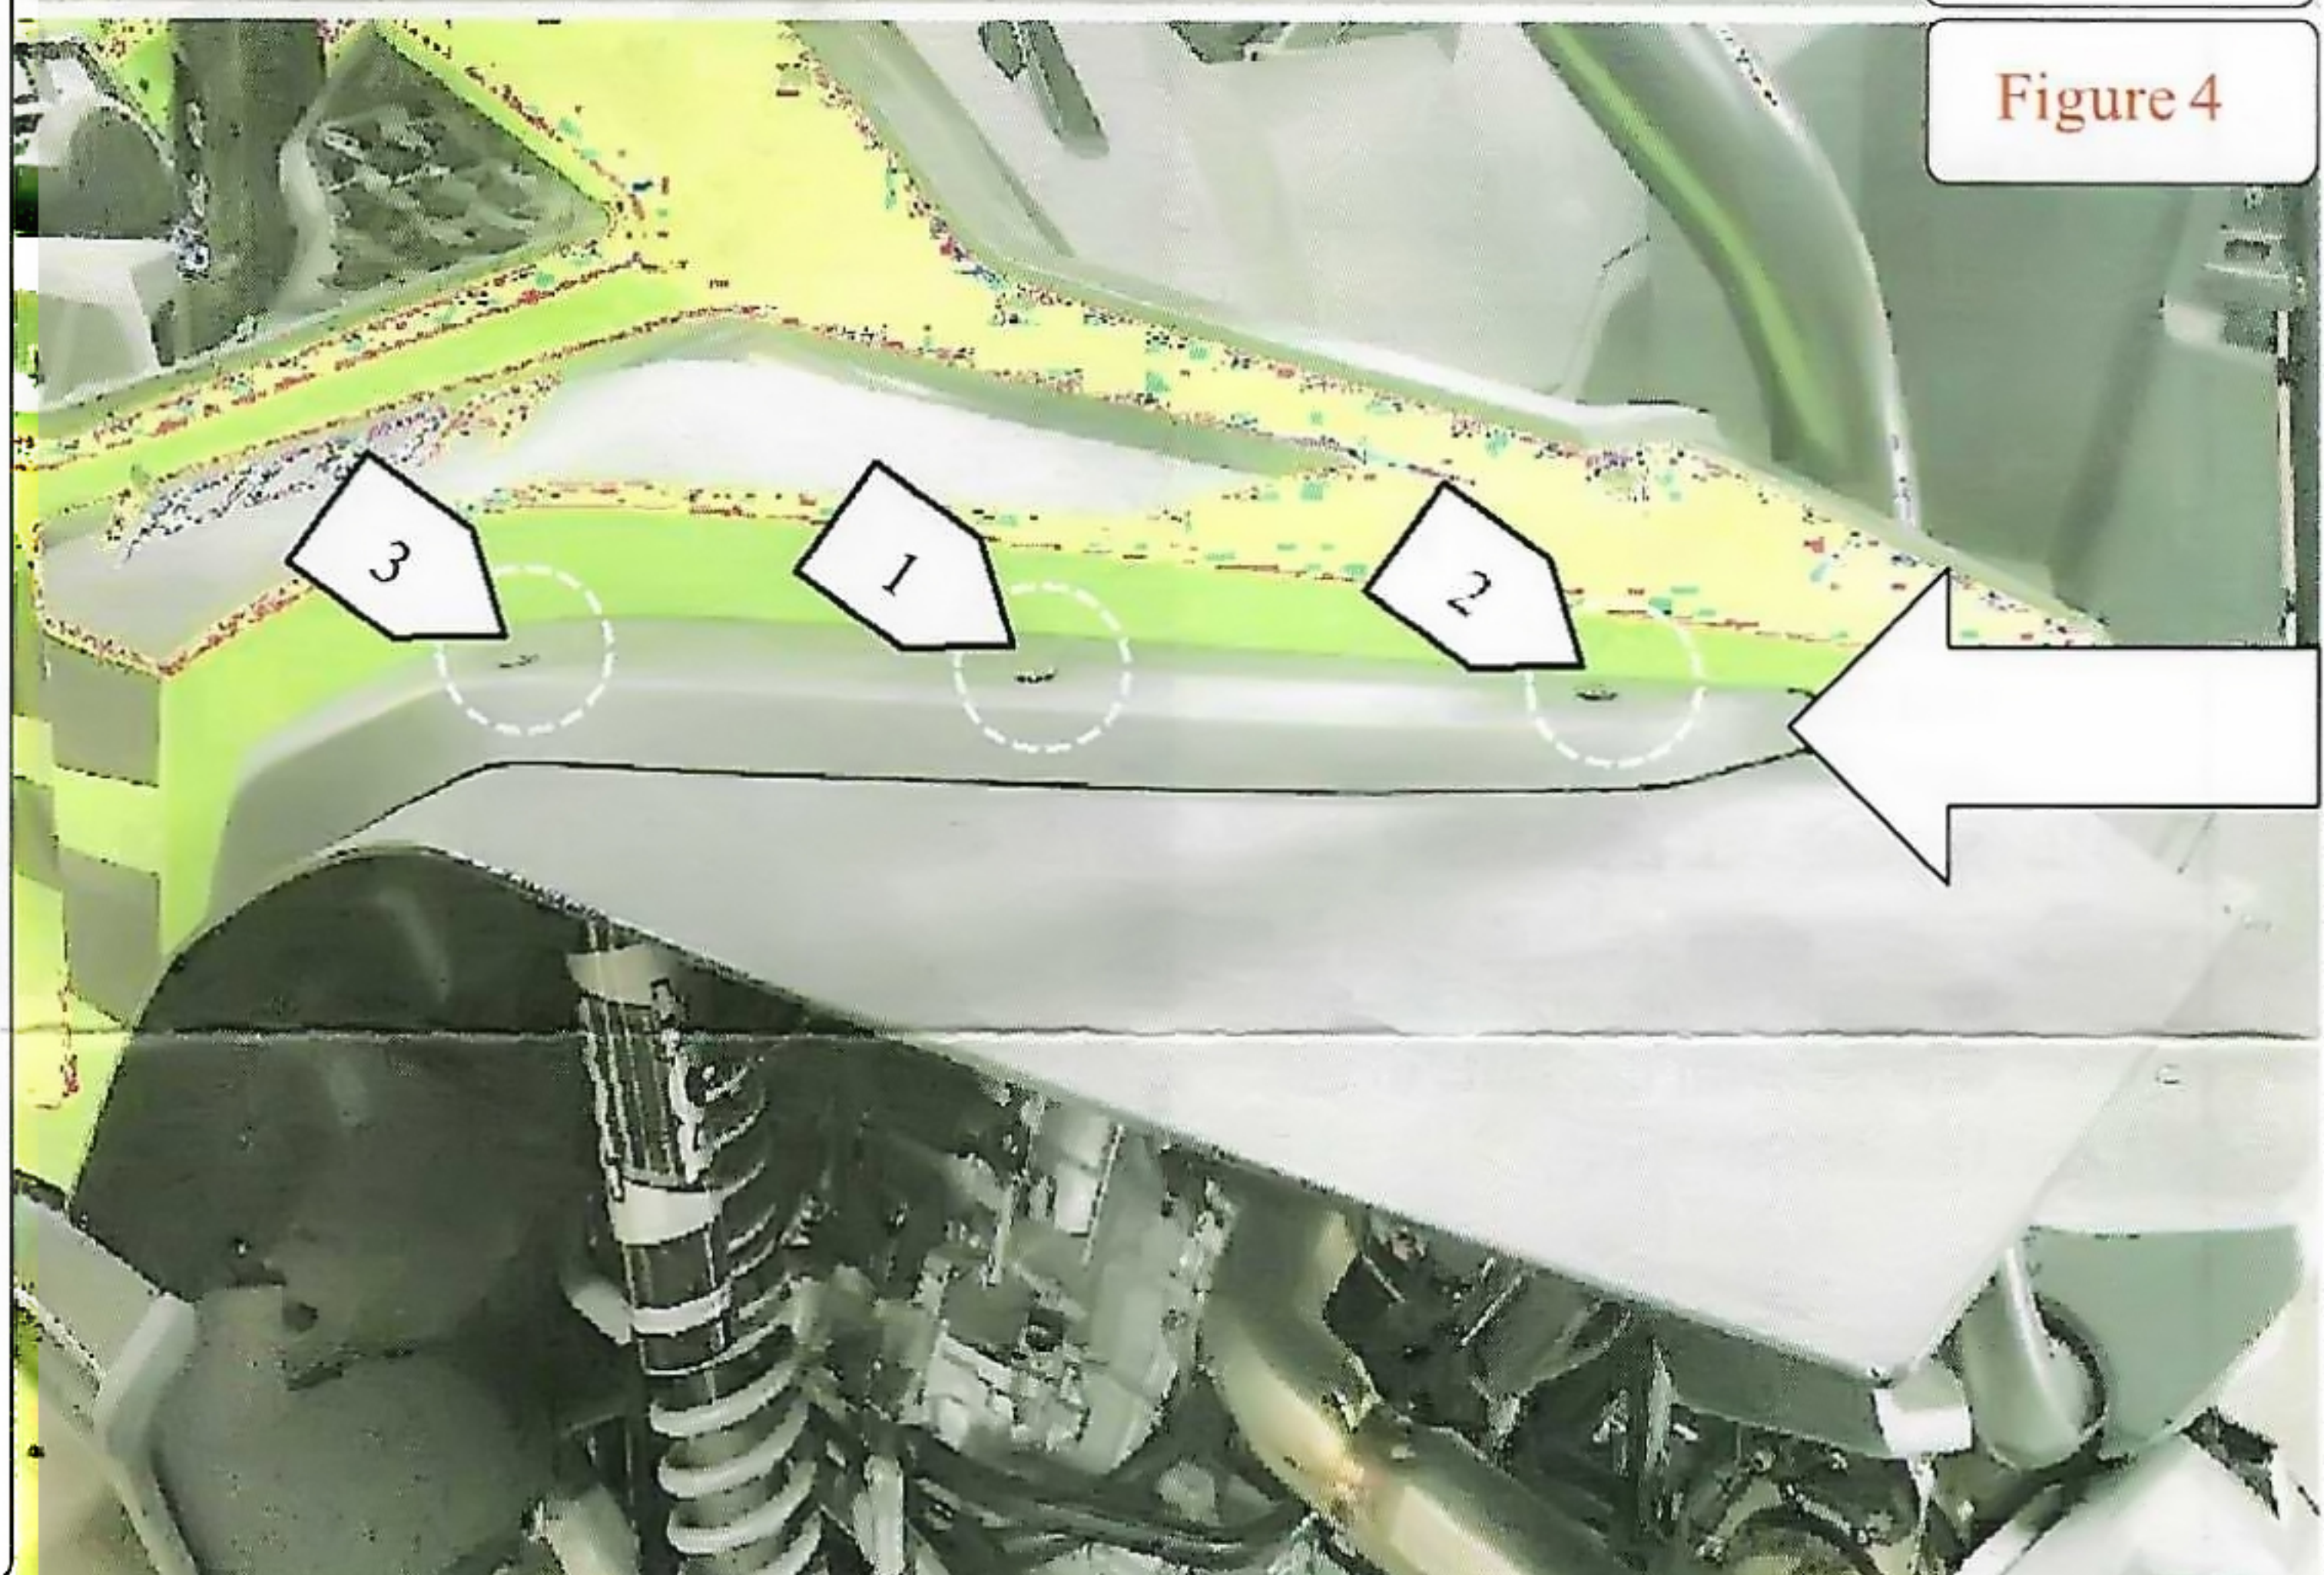

Figure 4
- 4) With the rear fender extension pressed firmly against the body, carefully drill the middle hole from underneath with a 1/4" drill bit. Figure 4.
- 5) Insert (1) 40mm bolt with a large 7/8" spacer between the factory fender and the fender extension. Then add (1) washer and (1) lock-nut finger tight.
- 6) Proceed to bolt #2 in Figure 4. Insert (1) 30mm bolt with a 5/8" spacer between the factory fender and the fender extension. Then add (1) washer and (1) lock-nut finger tight.
- 7) Proceed to bolt #3 in Figure 4. Insert (1) 40mm bolt with a large 7/8" spacer between the factory fender and the fender extension. Then add (1) washer and (1) lock-nut finger tight.